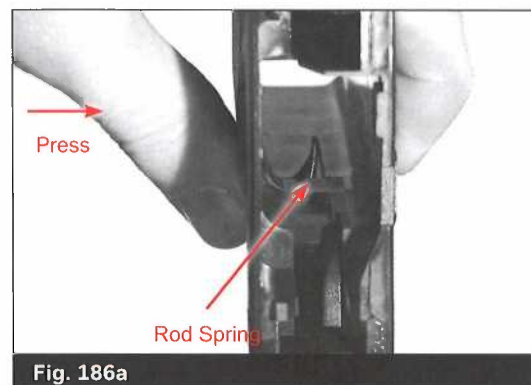

Fig. 186a
- While pressing against the magazine catch to prevent it from moving, use a small flat head screwdriver to push the magazine catch spring up and towards the “U” shaped cut in the magazine catch to release the spring tension on the magazine catch. (Fig. 186a/186b)